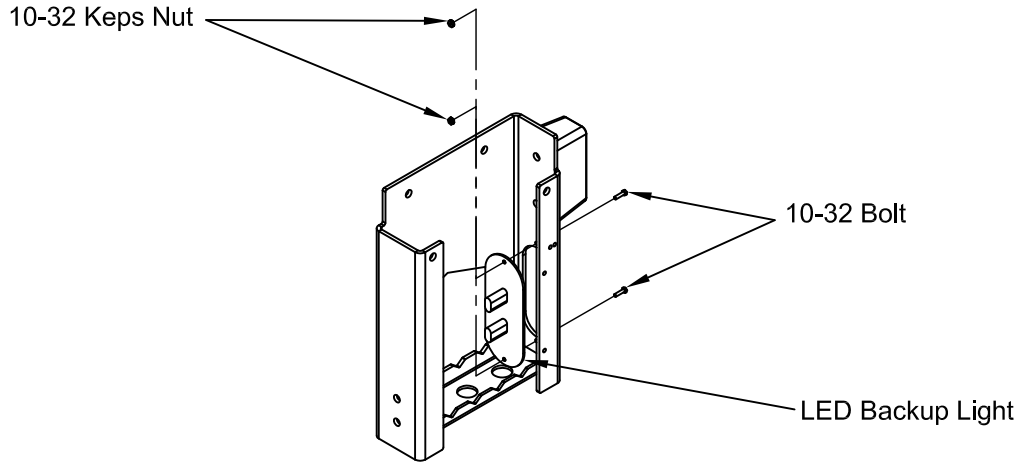

Figure 4: Light location.
4. Bolt the light inside the side step with the provided two (2) 10-32 bolts and 10-32 keps nuts (Figure 4).